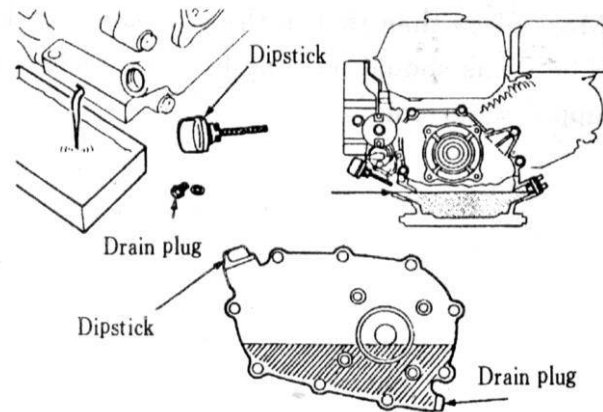

Fig. 22
- a) Turn off the oil filler cap and drain plug to drain engine oil thoroughly. Reinstall the drain plug and screw in securely (Fig. 22).